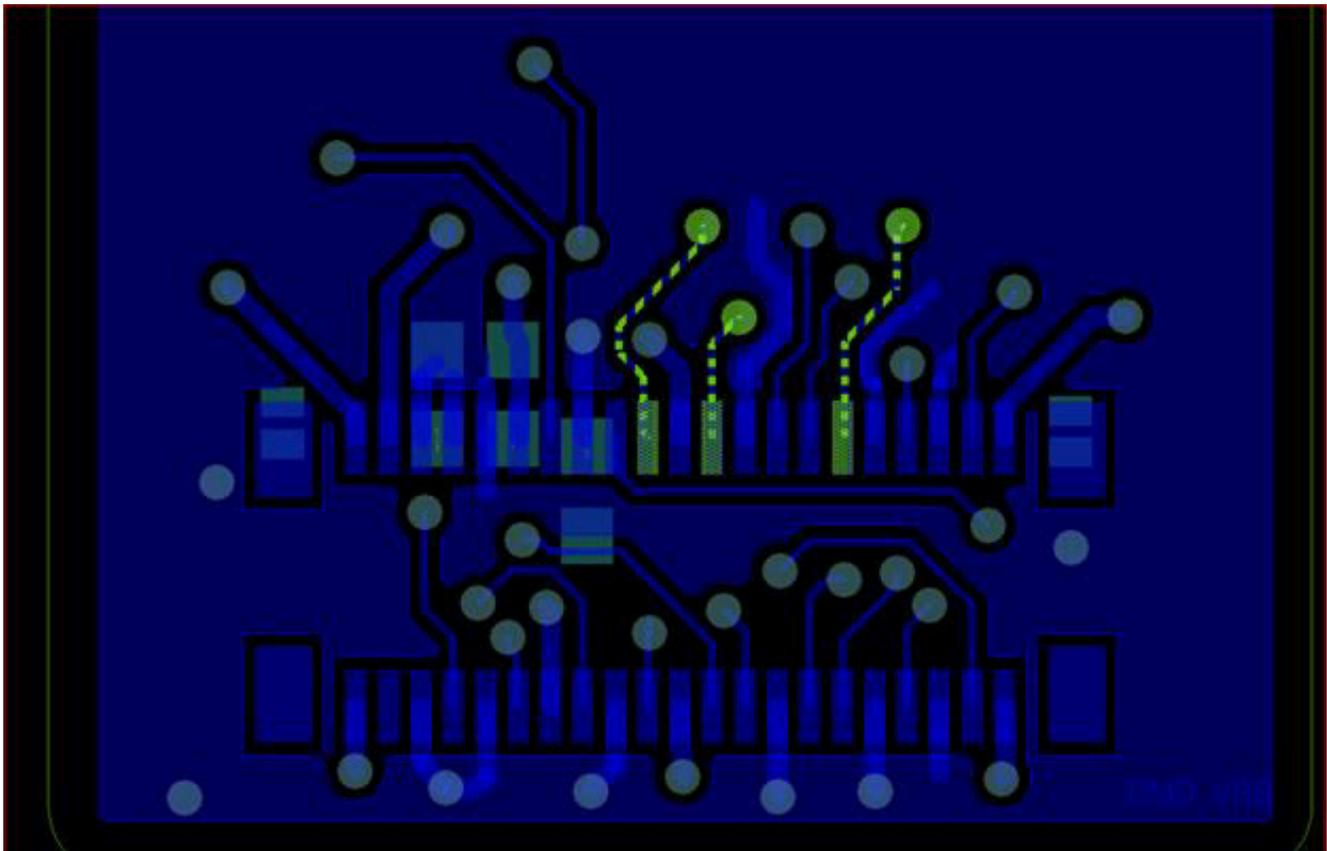
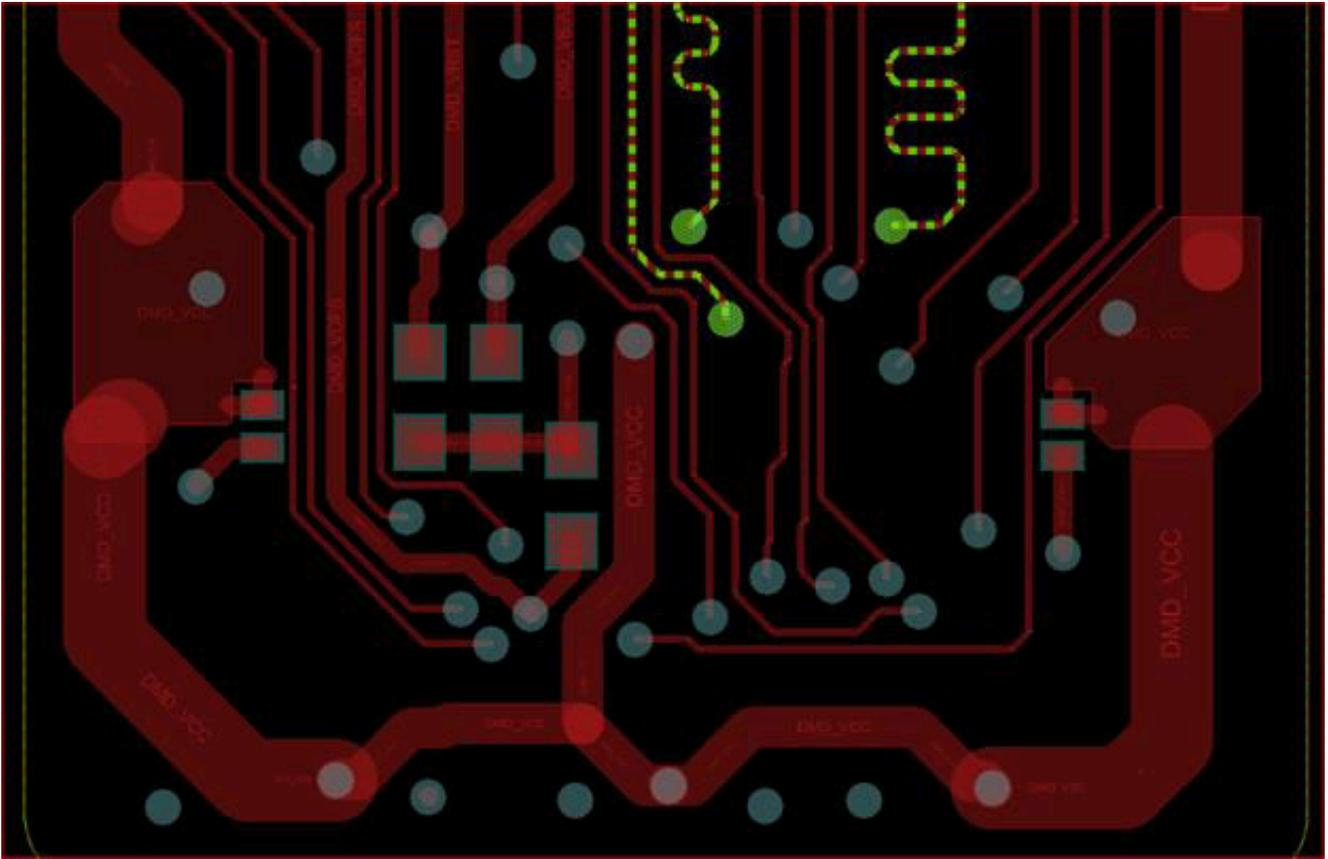

Figure 10-1. DMD Flex Cable—Top Layer
Figure 10-2. DMD Flex Cable—Bottom Layer
- Figure 10-1 and Figure 10-2 show the top and bottom layer of the DMD flex cable connections.